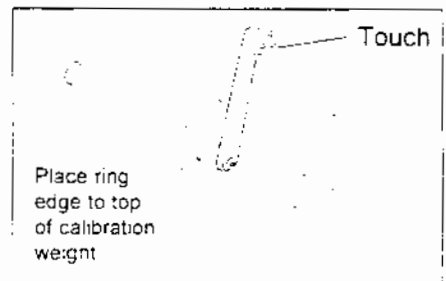

Figure 16
4. When returned the display will then read "SLU PEA". Install the shaft calibration slug into the tapped hole on the outer edge of the backing plate. See *Figure 16*. Rotate the plate and the gauge arm to a point where the arm locator ring touches the end of the weight. After a two second pause in this position, the third dimension is entered automatically.